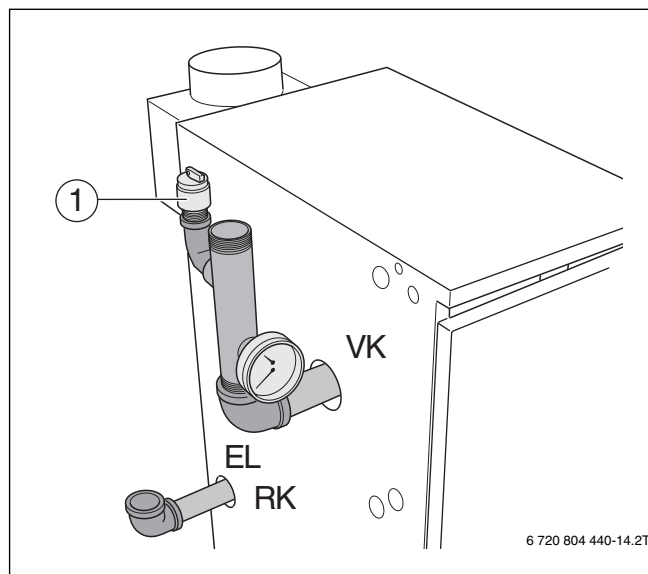

Fig. 14 B-kit installation
- Close connection for relief valve (→ figure 14, page 12) and all other open connections with plugs.
- Install pressure relief valve (→ figure 14, page 12).